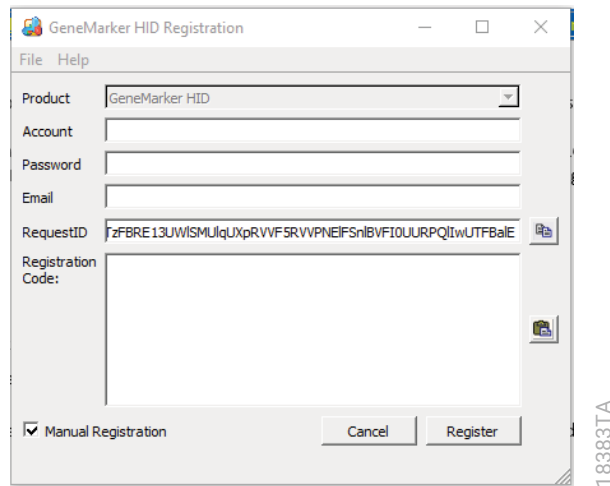

Figure 18. Selecting ‘Manual Registration’ from the ‘GeneMarker HID Registration’ window.
If the Online Registration process failed, select the “Manual Registration” check box in the ‘GeneMarker HID Registration’ window (Figure 18).
1. Select the **Copy** button to the right of the RequestID field from the 'GeneMarker HID Registration' window (Figure 18). Paste the ID and type your Account (GMHIDSPECTRUM) and password into the body of an e-mail and send it to: **tech_support@softgenetics.com**
1. The LSM should launch after installation. If the LSM did not launch, double-click the **LSM** icon in your system icons tray (Figure 18) or navigate to the destination folder location selected during installation and double-click the **LicenseServer.exe**.